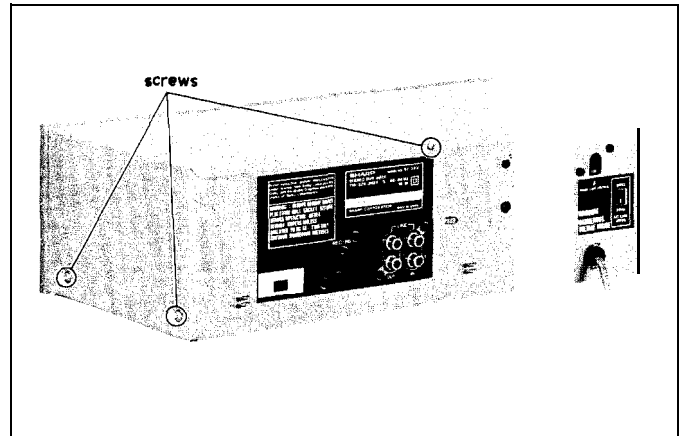

Figure 4-2
1. From the cabinet, remove the four (4) screws two each at its right and left sides, and the one (1) screw at its rear surface. (Refer to Figure 4-2.)